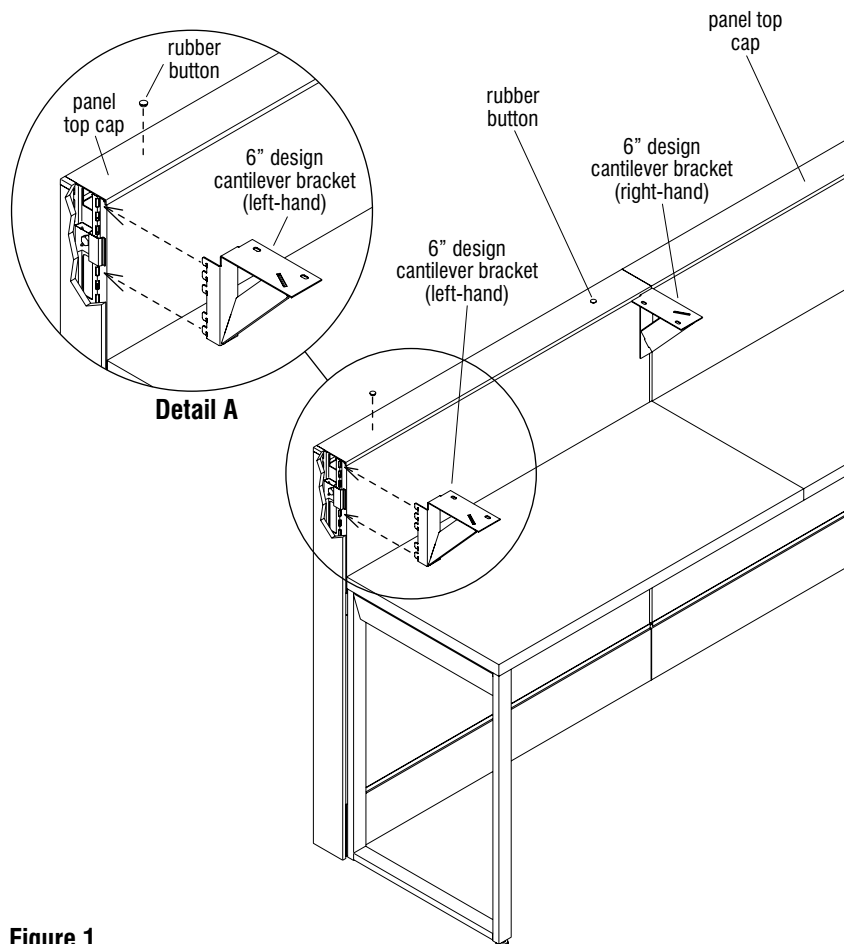

Figure 1
1. Ensure that the Legion Panel top cap is installed prior to attaching brackets and transaction countertop. Install two self-stick rubber buttons to the top cap as illustrated. Spacing of buttons is approximate, and buttons prevent the countertop from incidental contact with the top cap (Figure 1).
2. The 6" design cantilever brackets are right- or left-hand in design, so one style of bracket will install to the left-hand side, and the other style will install on the right-hand side of the panel to support a transaction countertop. They must be installed to the inside (workstation side) of the panel. To install a bracket, identify the top slot of the panel vertical post and insert the top tooth of the appropriate cantilever design bracket into that top slot. Engage all teeth into slots in the vertical post, then press down firmly to engage all teeth into the slots. The horizontal top of the bracket should be about  $\frac{1}{8}$ " above the top of the panel top cap. Check bracket for full engagement by pulling straight back firmly in a horizontal motion (Figure 1 & Detail A).